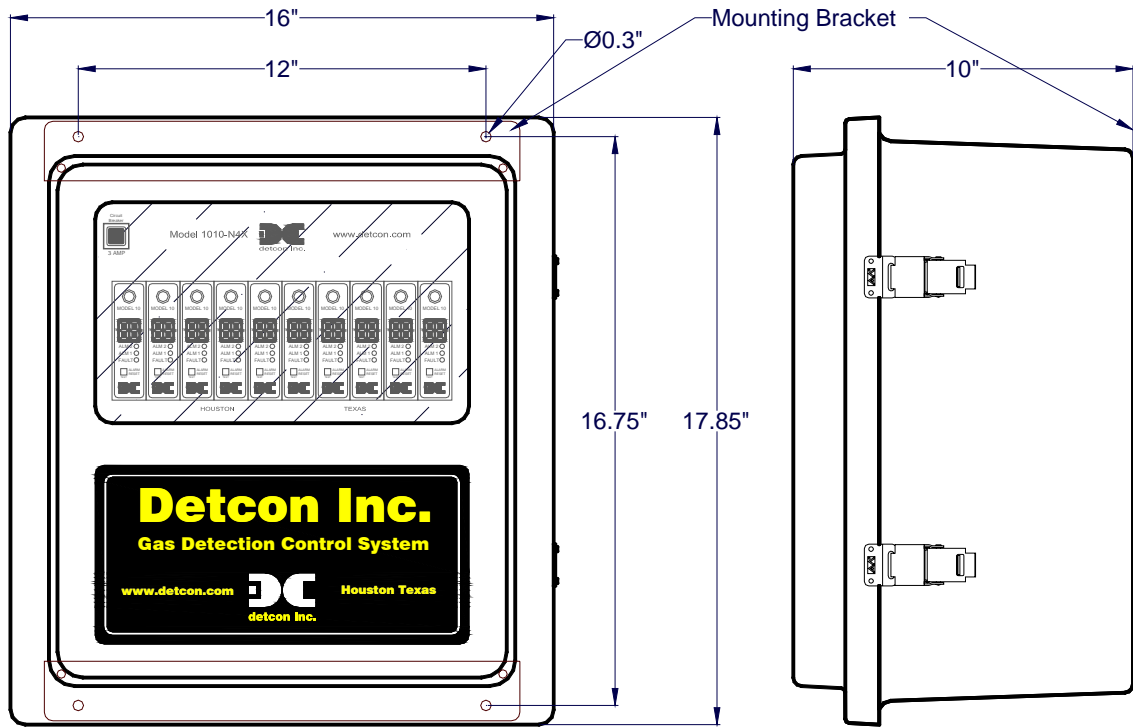
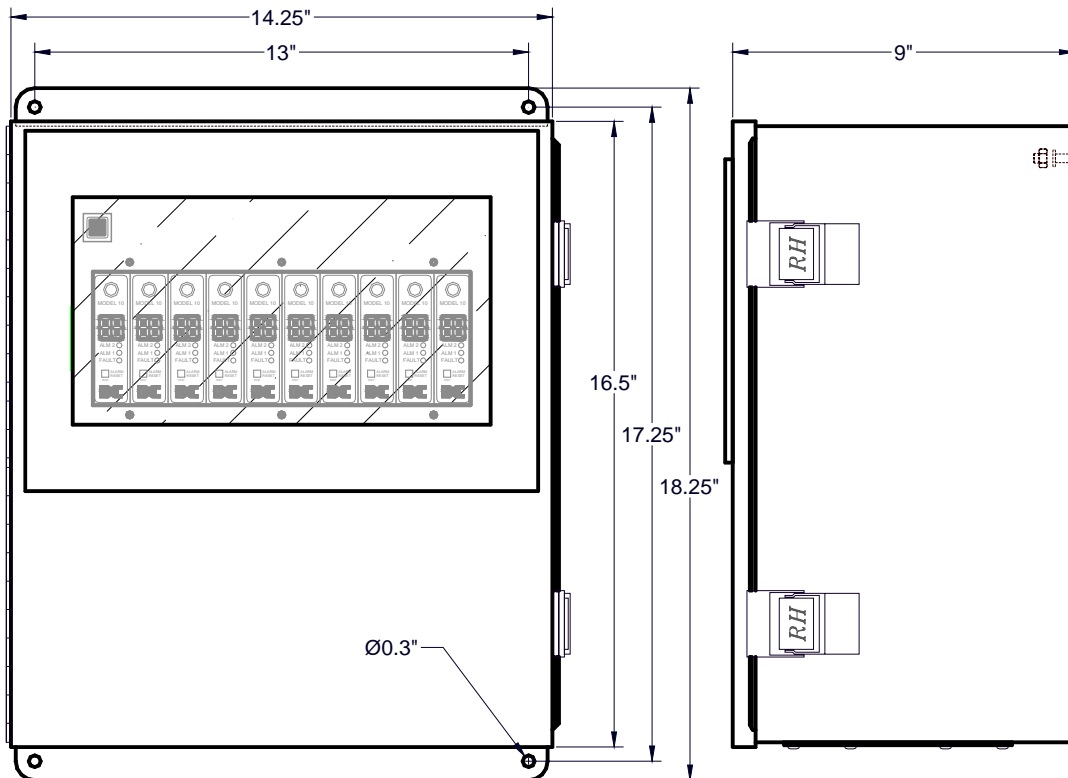

Figure 2 Mounting the 1010-N4X Enclosure
Figure 3 Mounting the 1010-N4X stainless Steel Enclosure
1. Securely mount the 1010-N4X Enclosure in accordance with Figure 2 or Figure 3.